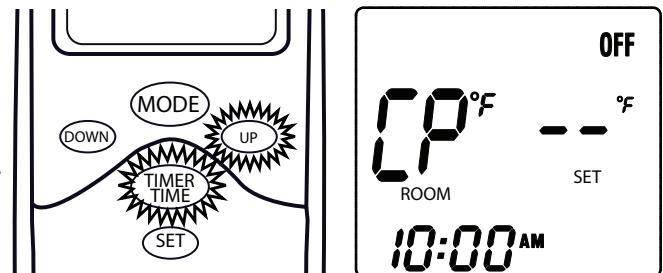

Fig. 23 Child Protection (CP)
1. To activate the "LOCK-OUT" feature, **press and hold** the UP and TIMER/TIME buttons, together, for 5 seconds. The letters **CP** will appear in the TEMP frame on the LCD screen (Fig. 23).